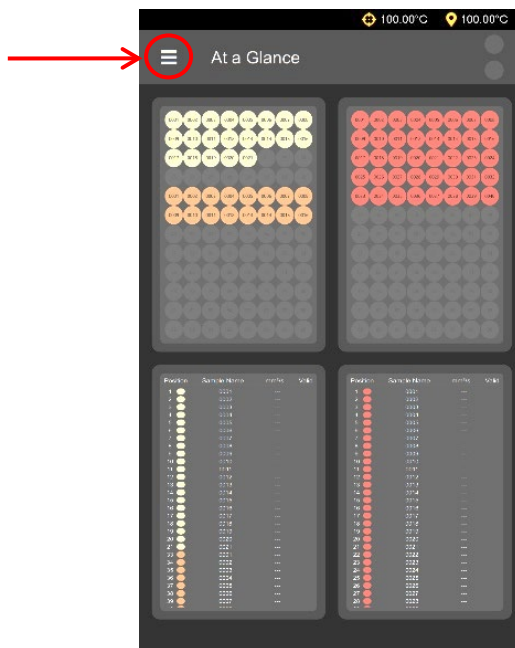

Figure 9: At a Glance Screen
3. From the main screen, **At a Glance**, use a single touch to select the “hamburger” or three-line button in top left corner next to the title **At a Glance**, to view the **Main Menu** Screen. See Figure 9.
1. First, you will need to move the position of the gantry in order to have access to the viscometer cell assembly. From the main screen, **At a Glance**, use a single touch to select the “hamburger” or three-line button in top left corner next to the title **At a Glance**, to view the **Main Menu** Screen. Refer to Figure 9.
1. From the main screen, **At a Glance**, use a single touch to select the “hamburger” or three-line button in top left corner next to the title **At a Glance**, to view the **Main Menu Screen**. Refer to Figure 9.
1. From the main screen, At a Glance, use a single touch to select the “hamburger” or three-line button in top left corner next to the title At a Glance, to view the Main Menu Screen. Refer to Figure 9.